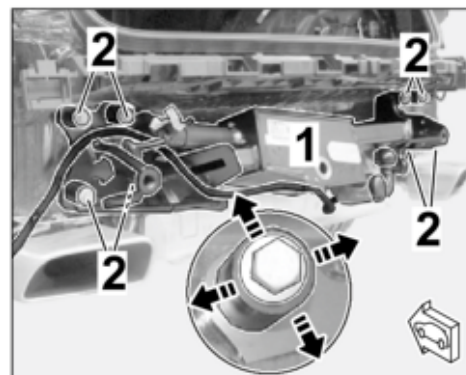

Figure 7
2.1.2 Align bolt guides for the trailer hitch (8 x) symmetrically with respect to the 8 bolt heads M12 x 1.5 x 90 ⇒ Figure 7 **-Magnifier-**.